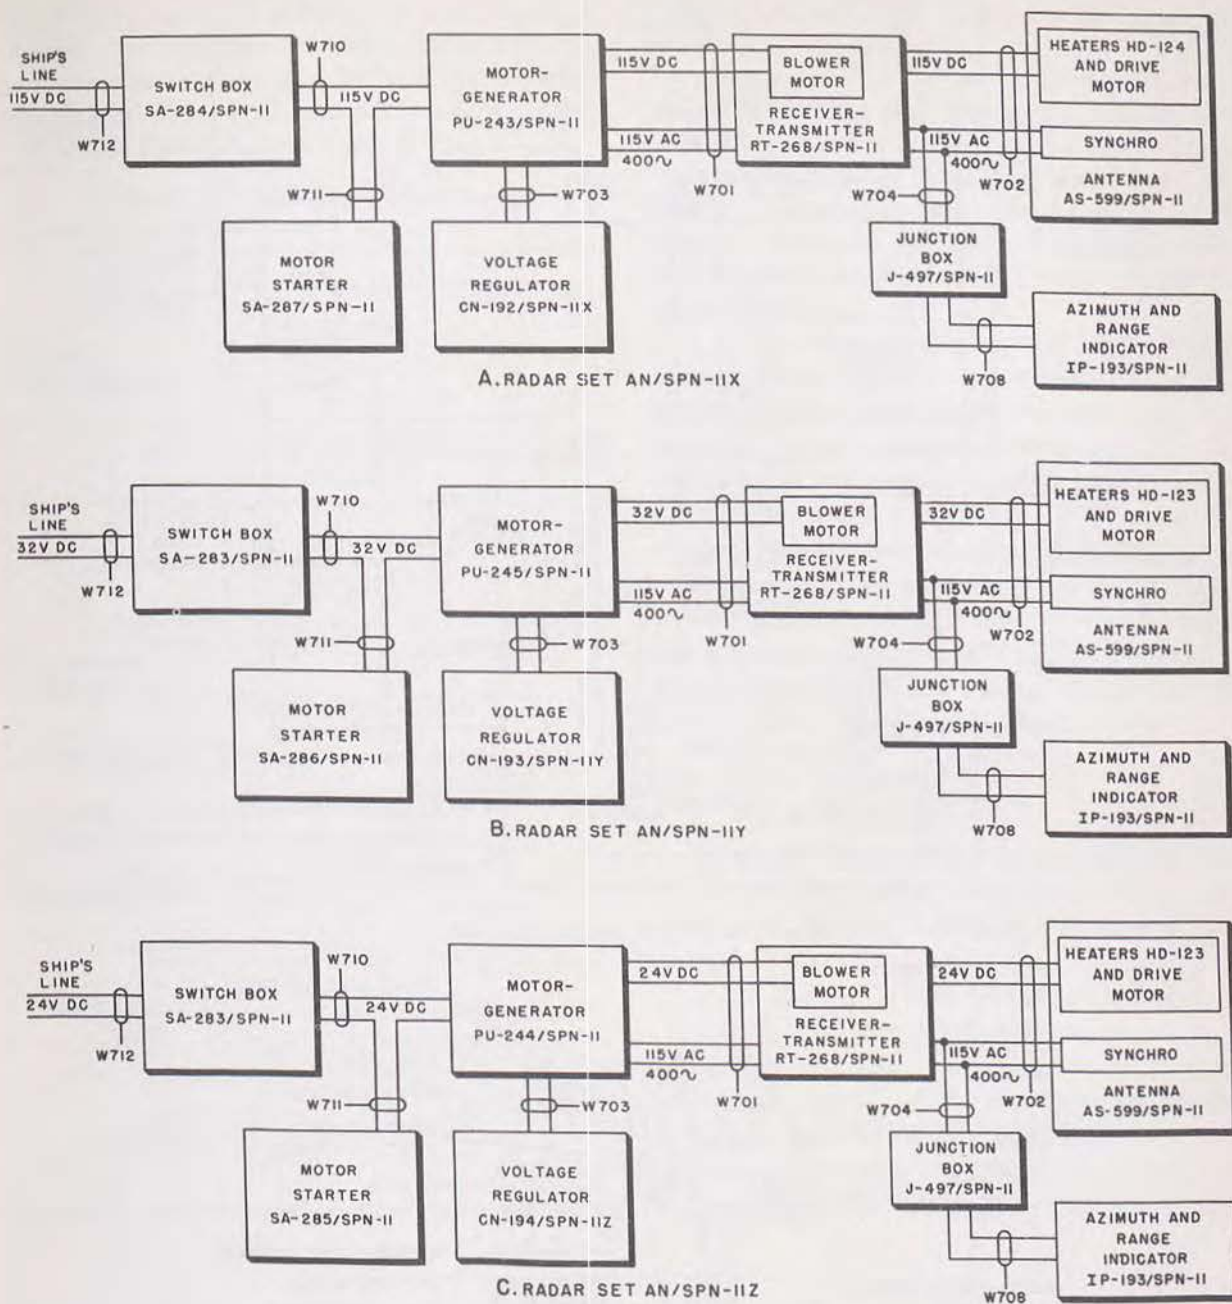

Figure 75. Power groups, block diagram.
(fig. 75)
Figure 75(A) is a block diagram of the power group for Radar Set AN/SPN-11X. This is the nomenclature for the equipment when the power group provided is used with a ship's supply of 115 volts dc. When the power group is used with a ship's supply of 32 volts dc, the nomenclature is Radar Set AN/SPN-11Y (fig. 75(B)). When the power group is used with a ship's supply of 24 volts dc, the nomenclature is Radar Set AN/SPN-11Z (fig. 75(C)). Except for their ratings, all power group parts are similar in operation.